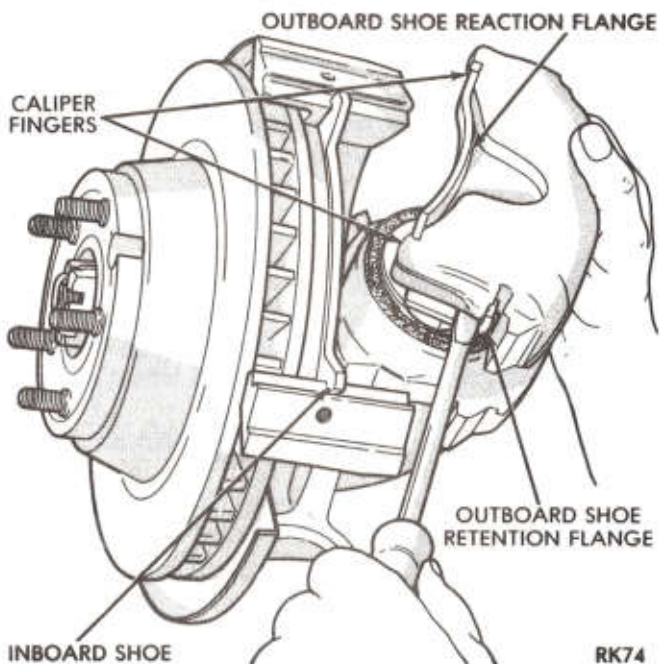
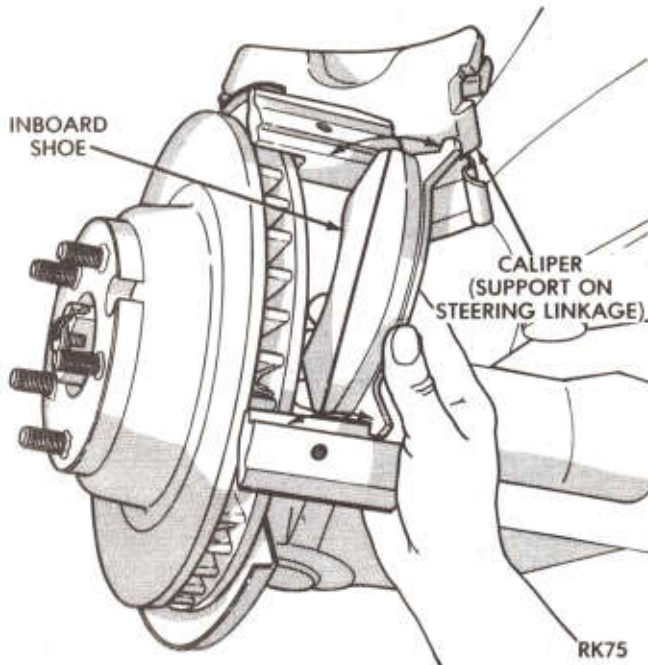

Fig. 6—Removing Outboard Shoe
Fig. 7—Removing or Installing Inboard Shoe
- (5) Remove outboard shoe (flanges on outboard shoe and retain shoe to caliper) by prying between shoe and caliper fingers (Fig. 6). Support caliper so as not to damage flexible brake hose. Remove inboard brake shoe (Fig. 7).
(3) Remove paper from noise suppression gasket and then position inboard shoe in position on adaptor with shoe "flanges" in the adaptor "ways" (Fig. 7).
(4) Slowly slide caliper assembly into position in adaptor and over disc. Align caliper on machined ways of adaptor. **Be careful not to pull the dust boot from its groove as the piston and boot slide over the inboard shoe.**
(5) Install anti-rattle springs and retaining clips and torque retaining screws to 200 inch-pounds.